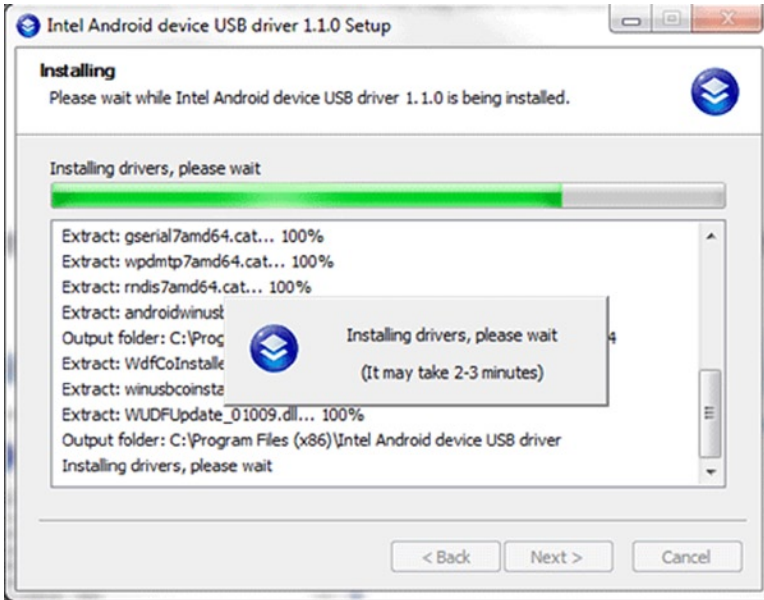

Figure 8-2. USB Device Driver Installation Progress Screen
7. The installer will proceed to install the Android USB drivers. This may take a few minutes (see Figure 8-2).